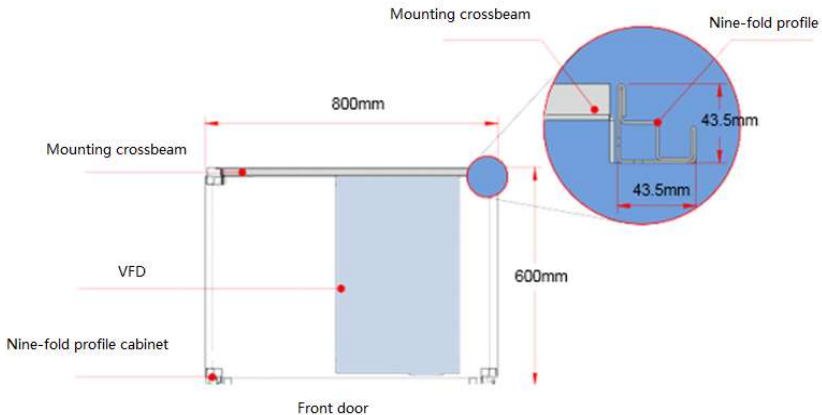

Figure 4-11 Top view of mounting a MSI270 280–500kW VFD in a cabinet
1	Mount the crossbeam for VFD fixing in the nine-fold profile cabinet. (See Figure 4-11.)
- (1) The nine-fold profile cabinet (PS cabinet) is recommended. Figure 4-11 shows the enlarged view of the nine-fold profile cross section.